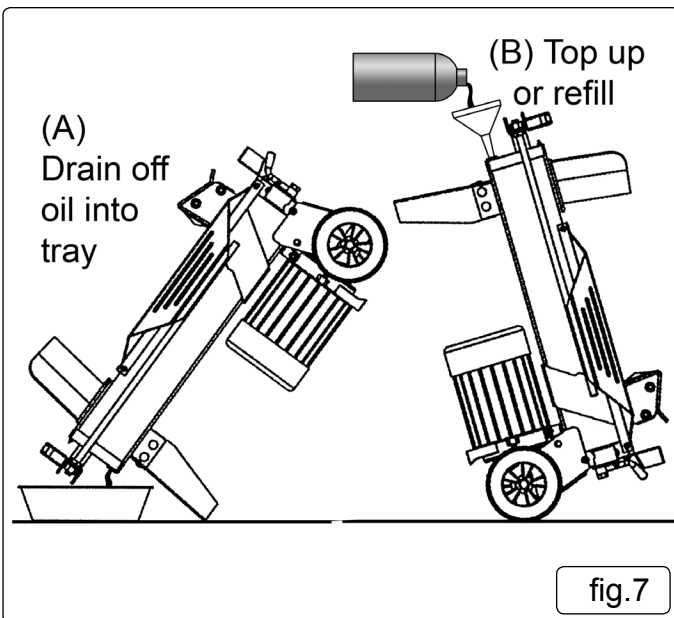

fig.7
7.4. Remove the oil filler bolt with dipstick and tip the log splitter forwards on the support leg so that the oil drains into the container as shown below in fig.7-A.
7.5. Tip the unit back on its wheels to a near vertical position and support it in this position as shown in fig.7-B. Refill the unit with 3½ litres of hydraulic oil. Drop the oil filler bolt with integral dipstick into the filler hole and remove again to check the oil level which should be between the two grooves on the dipstick.